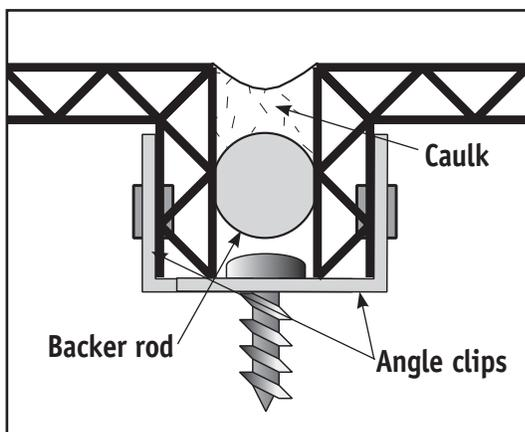

Figure 15
For a caulk joint to function correctly, it should be approximately twice as wide as it is deep, and should be thinner in the middle than at the edges to allow for expansion and contraction without stressing the bond between the caulk and the panel. A correct caulk joint should have an hour-glass shape. See **Figure 15**.
**Figure 15** is a cut-away view of the caulk joint.